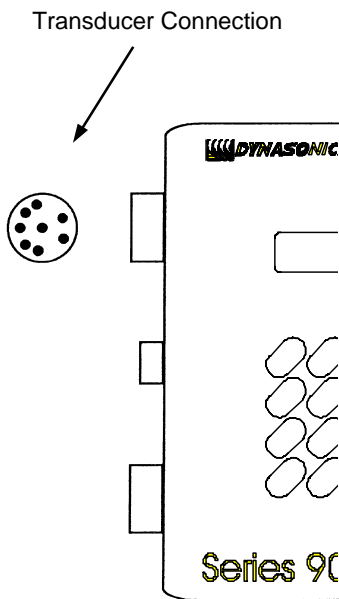

Figure 3
2. Connect the transducer cable connector plug to the corresponding connector socket location on the side of the D902/3 enclosure. See **Figure 3**.